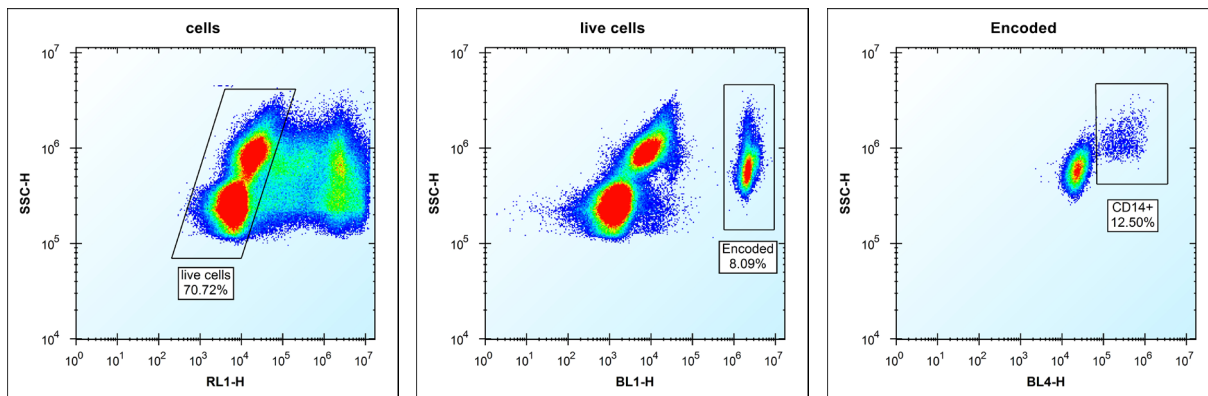

Figure 4: iQue[®] Human Antibody Dependent Cellular Phagocytosis (ADCP) Kit gating for B/Green encoded Ramos cells with PBMCs.
- 6.7 Use template to gate Cells \rightarrow Live Cells \rightarrow Encoded \rightarrow CD14+ (see Figure 4).